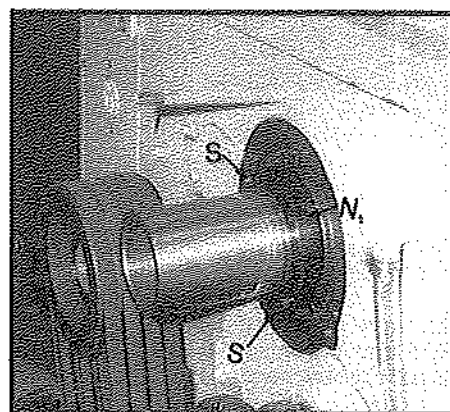

Fig.28
A set of pre-loaded Taper Roller bearings are incorporated on the main spindle and are pre-set on assembly. If the main spindle begins to have too much runout, it may perhaps be caused by wearing of the spindle bearings and/or the end thrust adjusting nut may have become loosened. To adjust the bearing, open the end cover, loosen the bearing cover and release two (2) set screws (S) on the thrust nut (N) (Fig.28). Then tighten the nut (N) by G-type lock spanner carefully. After adjusting the end thrust nut, re-tighten the two set screws.